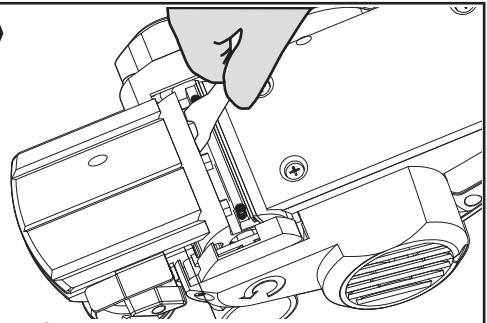

Fig. G1
8. BLADE FITTING AND CHANGING (See Fig. G1-G4)